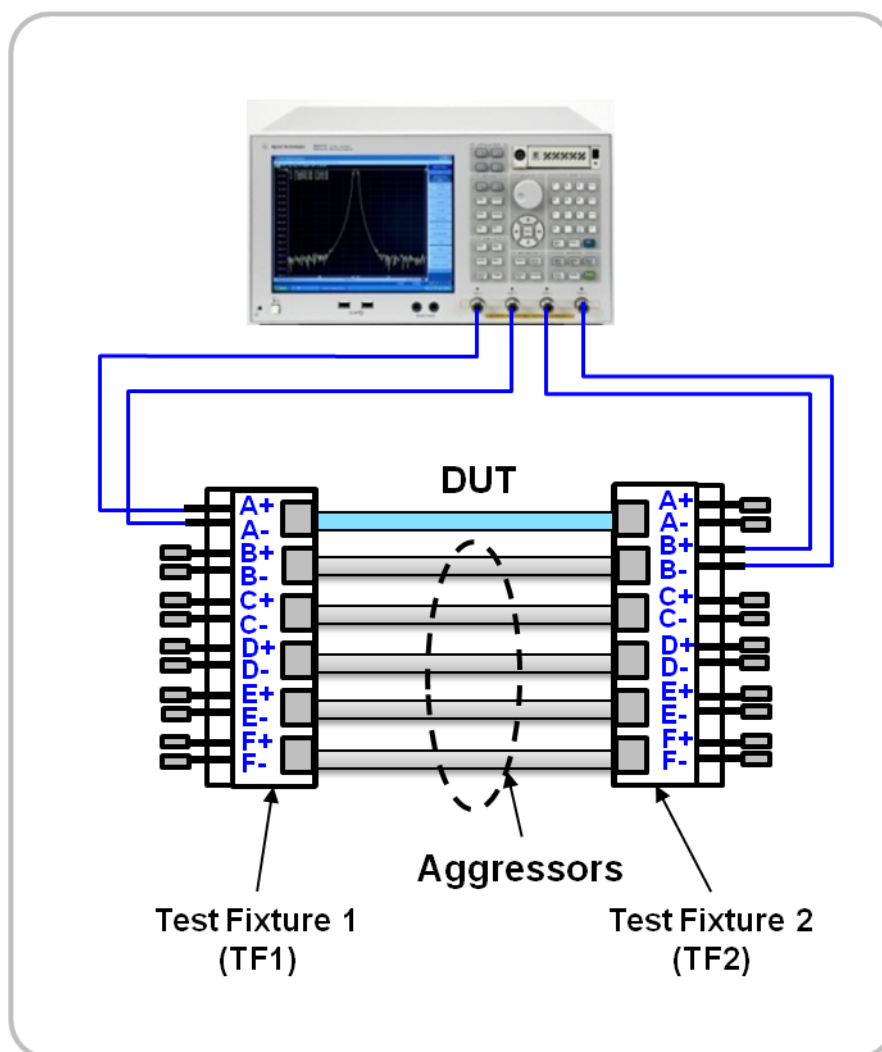

Figure 5.3 Power Sum Alien Attenuation to Crosstalk Ratio Far End (PSAACRF) Test Setup
1. Connect the DUT and aggressor cables to the ENA (Figure 5-3).